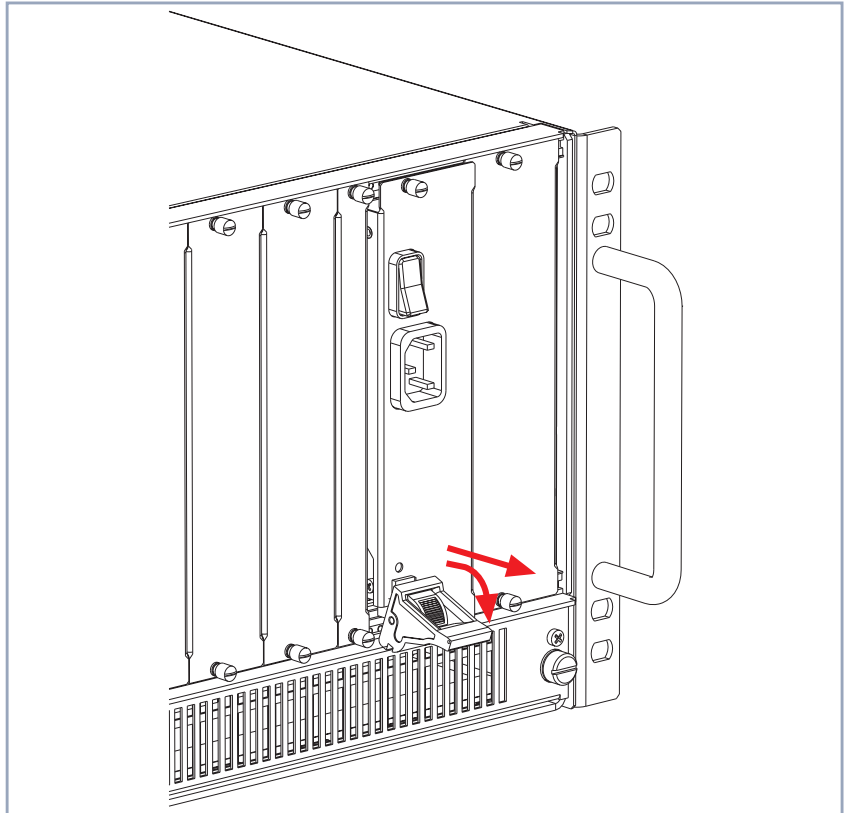

Figure 4-17: Replacing X8A-PS
- Push the injector/ejector handle (see figure 4-17, page 57) further down until the power supply unit comes out of its position.